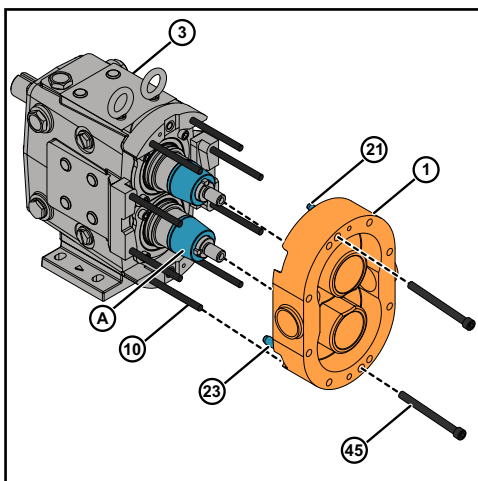

Figure 86 - Install pump body
1. Install the installation guide (A) on both shafts to avoid damaging the lip seals as the pump body is drawn over the shafts. Ensure the front face of installation guide is attached to the back face of sleeve, as shown in Figure 86. See the installation guide part numbers Table on page 118.
2. Match the large and small dowel pin (21 & 23) sizes on the pump body (1) with the dowel pin holes in the pump gear case (3).
3. Install the pump body (1) to the gear case assembly (3), aligning the pump body with the body studs (10) and gradually tighten the two cap screw(45).